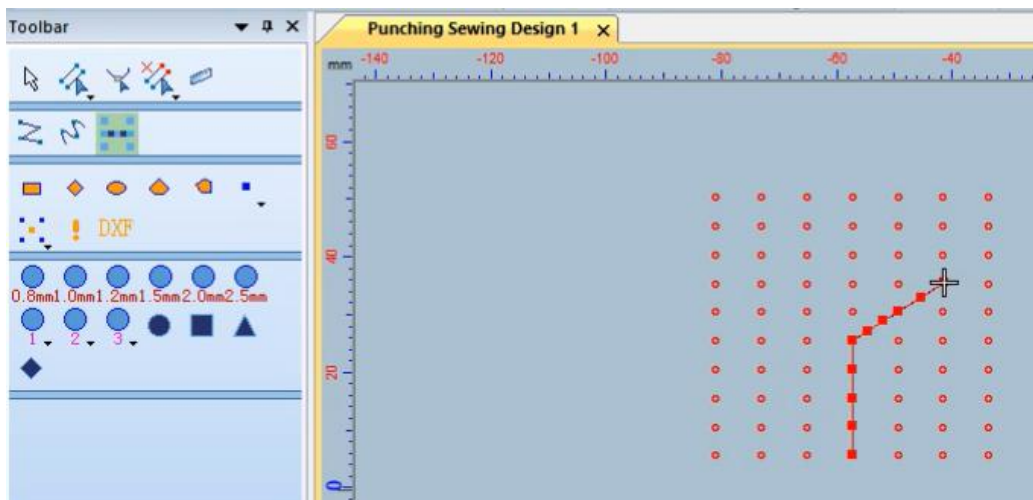

图 3 Picture3
第四步：使用左侧工具栏点击左右两点后中心会生成 1 个缝线点，从第 2 行开始按住“Shift”工具点击左右两个点，同样会在中心生成一个缝线点，（如图 1 直线缝线）。鼠标移动到要进行偏移的位置同时按住“Ctrl”和鼠标左键，进行偏移设置，设置好后点击确定（如图 2 偏移缝线）。按“Enter”键确定（如图 3）。
Step 4: Use the left toolbar to click on the left and right points, and a stitch point will be generated in the center. From the second row, hold down the "Shift" tool and click on the left and right points, and a stitch point will also be generated in the center. (Straight sutures as shown in Figure 1). Move the mouse to the position to be offset while holding down "Ctrl" and the left mouse button to set the offset. After setting, click OK (as shown in Figure 2 to offset the suture). Press the "Enter" key to confirm (Figure 3).